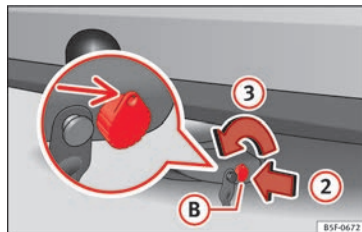

Fig. 222 Releasing the lock.
- Insert key **(B)** into the lock in the direction of arrow **(2)** » Fig. 222.